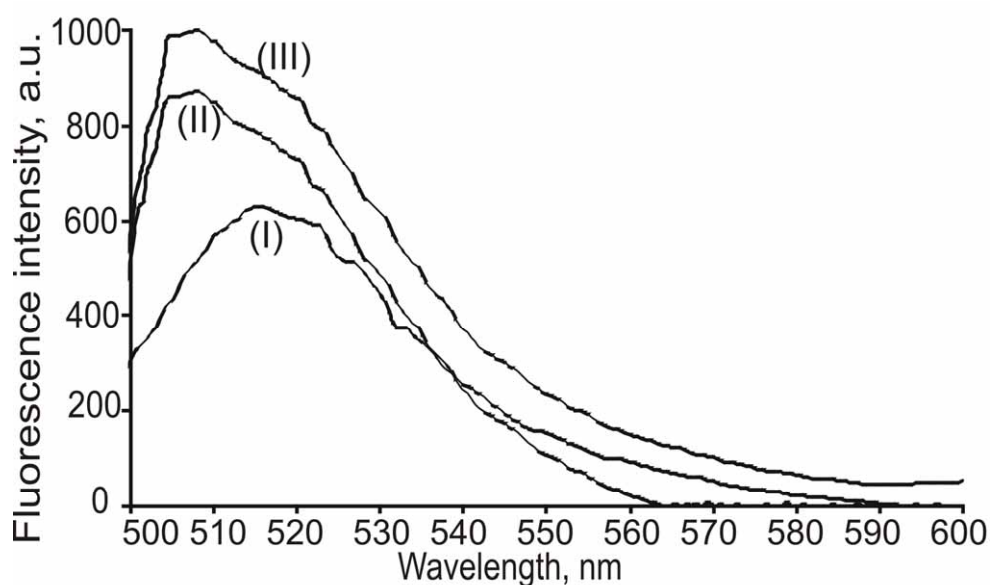

Figure S2
Figure S2. Effect of presence of Coumarin 6 during thermal aggregation of BCA on the fluorescence intensity of Coumarin 6. The fluorescence emission spectra Coumarin 6 alone (I), when added to BCA during aggregation (II) and when added to BCA after aggregation (III) are shown. The concentration of Coumarin 6 was 400 nM in each case. Samples were excited at 470 nm. Excitation slit width was kept at 5 nm and emission slit width was kept at 7.5 nm.